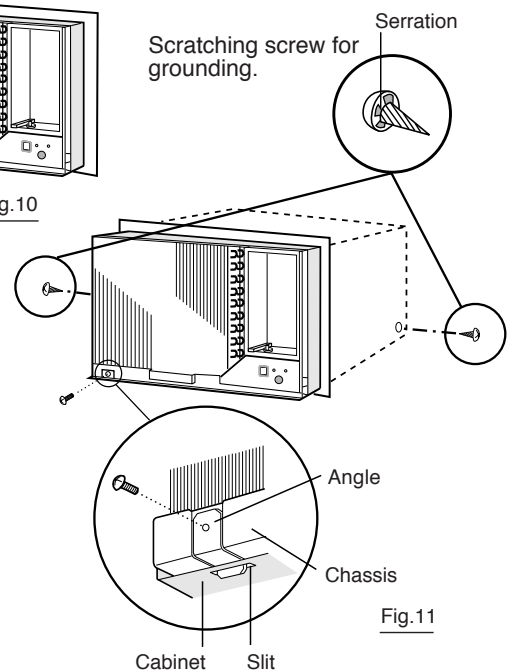

Fig.11
- (2) Secure the chassis to the cabinet using the screw and angle removed in step 2. Push the angle into the gap between the chassis and the cabinet. Hook the angle to the slit of the cabinet, next screw it on to the chassis. (Fig. 11)